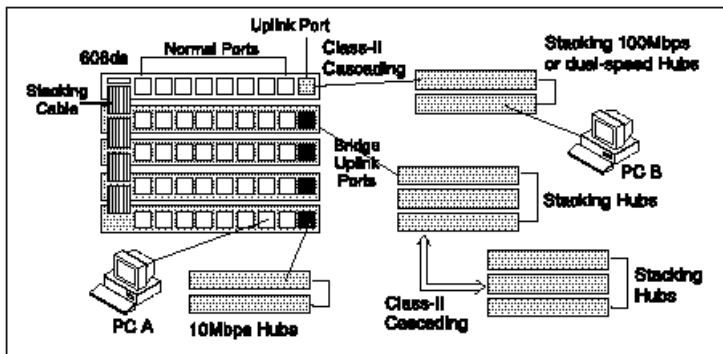

Figure 3-6 Connect to Ethernet Hubs.
- If multiple ALH-608ds are stacked together, users can connect to hubs by the uplink port in slave hubs. Therefore other hubs can perform another class-II cascading, as shown in *Figure 3-6*.